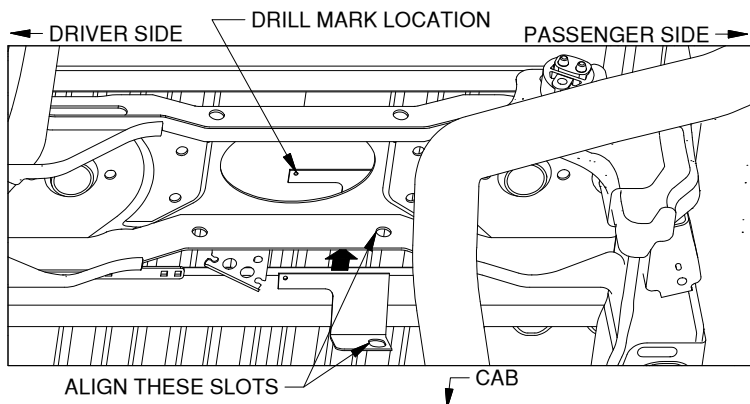

Figure A6: View looking under truck bed towards cab. (Axle not shown)
8. **Mark the location of the 3-1/2" hole.** Locate the hole marking template. The template will allow the drill location for the 3-1/2" hole to be marked. First, position the hole marking template above the frame cross member, as shown in Figure A6. Before the hole can be marked the template will need to be correctly positioned. Push the template up against the bottom of the truck bed. Move the template back until the formed flange is flat against the forward flange of the cross member. Slide the template so that the oval hole in the flange is in line with the hole in the cross member. Clamp the template to the flange in the cross member when the template is correctly positioned. Make a mark on the truck bed floor through the hole in the hole template using a marker, or other tool. Once the center point is marked, remove the template. Use a center punch to place an indentation in the truck bed at the center of the mark. Using a drill and a 1/4" bit, drill a pilot hole through the bed in this location.